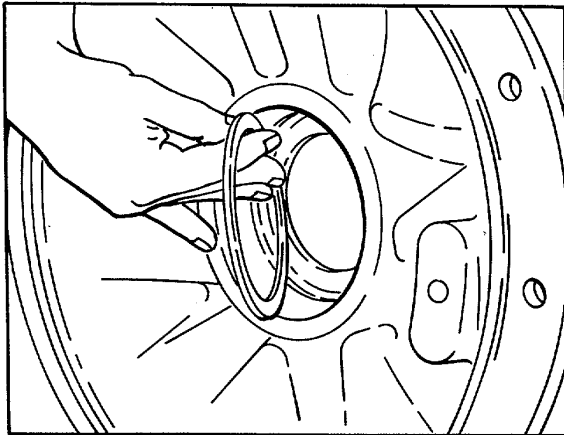

Figure 8.
2. Install differential bearing spacers in the original positions if new bearing cups are installed (refer to Fig. 8).